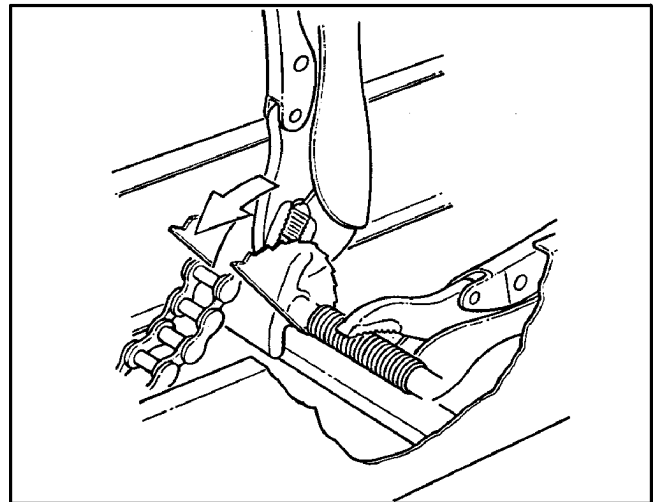

Figure 7-10. Prying the Slider Block off the Cam Assembly.
bottom of the frame channels. Clamp it in this position with a Vice-Grip 10CR or similar plier as illustrated in Figure 7-10 and remove the drive chain.
3. With pliers, pry the slider block off the cam assembly as illustrated in Figure 7-10.